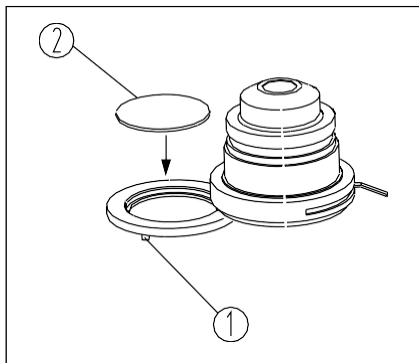

Fig.17
Tilt out the color filter frame (1) at the bottom of the condenser in clockwise direction, place the filter (2) into its hole, then tilt the frame in counterclockwise direction (See Fig.17).